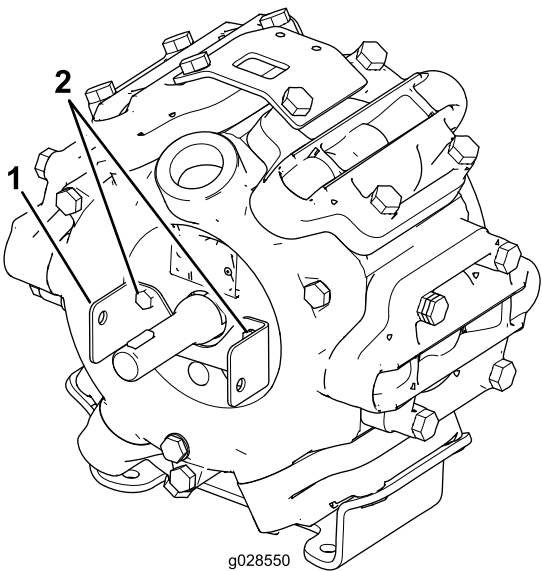

Figure 2
3. Install the drive-shaft-shield bracket onto the sprayer pump with the 2 bolts removed in step 1 as shown in Figure 2.